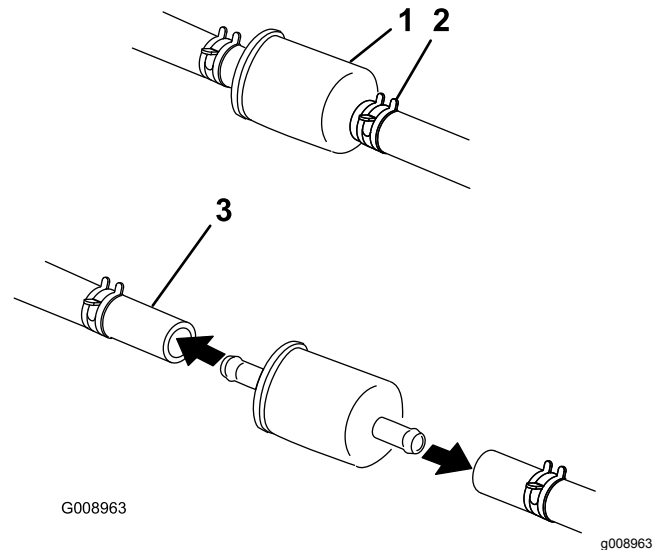

Figure 58
5. Squeeze the ends of the hose clamps together and slide them away from the filter (Figure 58).
7. Install a new filter and move the hose clamps close to the filter (Figure 58).